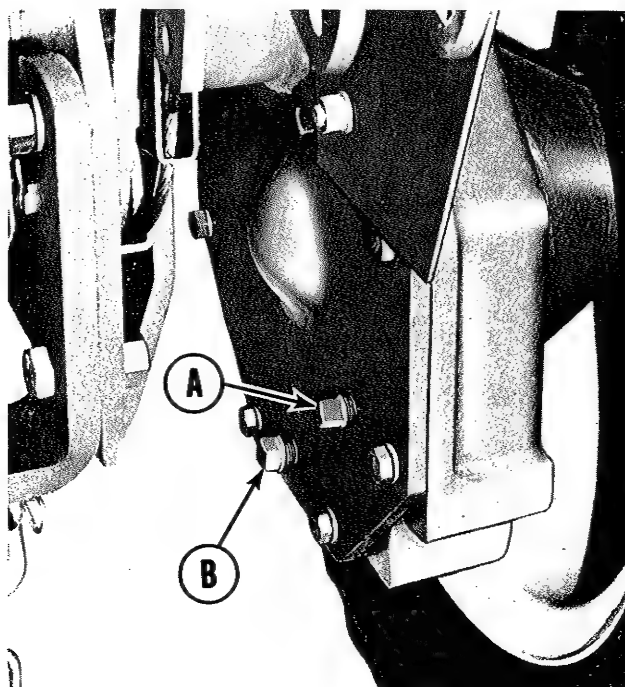

Figure 30. Drop housing shown from rear of tractor.
CHECK DROP HOUSING OIL LEVEL: See figure 30. Remove the oil level plug (A) from each of the two drop housings to check the oil level. The oil should be even with the lower threads in the plug hole. If oil must be added to bring the oil level up to the threads, add SAE 90 transmission grease through the check plug hole. If it should be necessary to drain the drop housings the drain plug (B) may be removed.